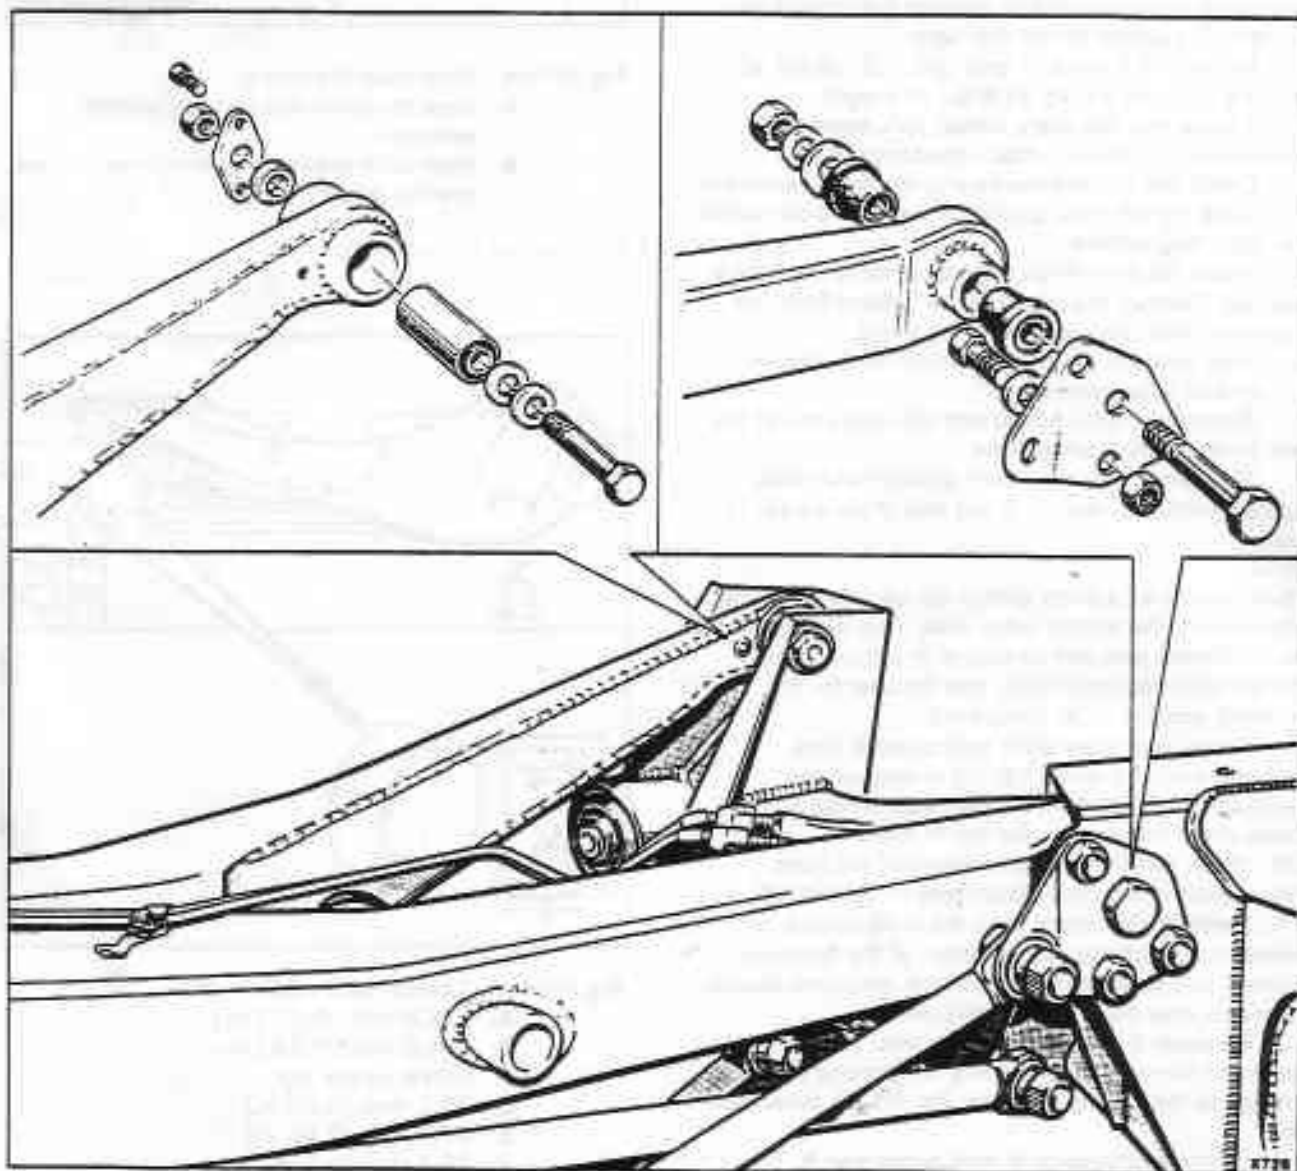

Fig. H15m Trailing arm pivot components
2. Fit the trailing arms to the crossmember (see Fig. H15m) and set them in the 'normal ride' position using small screw jacks situated beneath each arm.